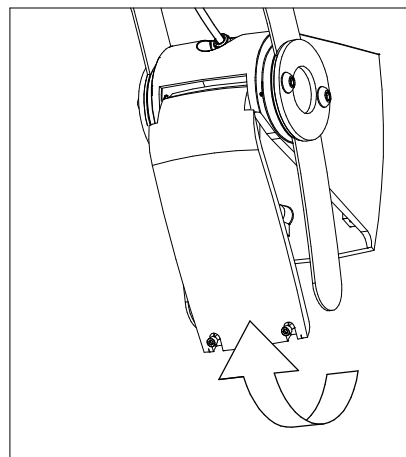

FIG. 2-2
2. OPEN BALLAST DOOR TO ACCESS AND DISCONNECT EXISTING BALLAST ASSEMBLY. (FIG.2-2)